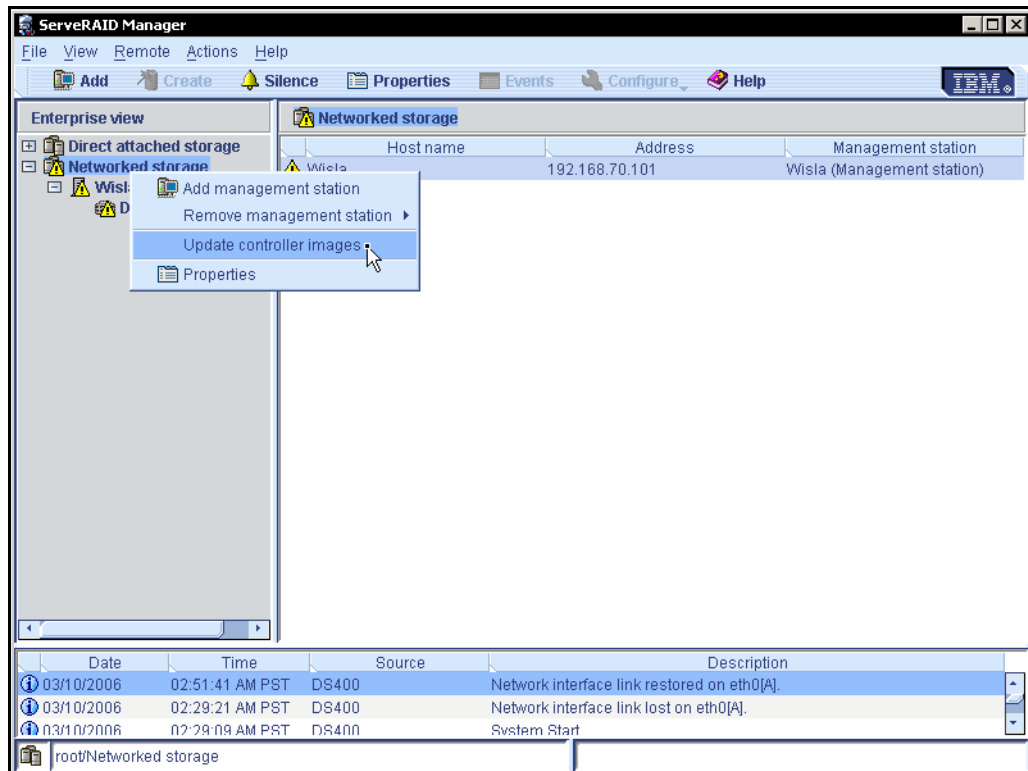

Figure 31 Update controller image
2. Right-click Networked storage, then click **Update controller images** as shown in Figure 31. This opens the Software Update wizard.